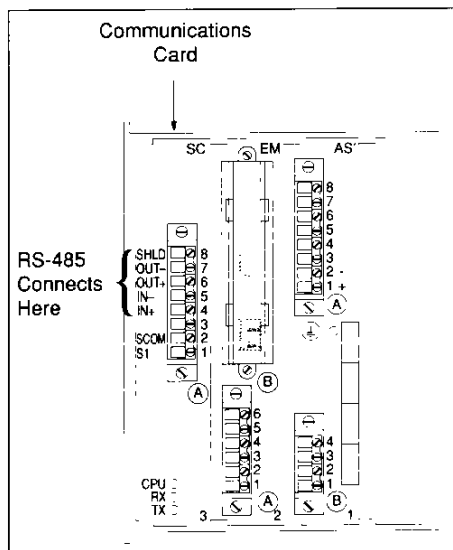

Figure 29: Communications card
Digital relay models DR-LXS01 S0A TBN and DR-LXS01 S0A TEN include a communications card (card 3). This communications card (figure 29) supports:
Digital relay models DR-LX S01 SOA TBN and DR-LX S01 SOA TEN include an RS-485 communications port for connection to a POWERLOGIC communications link. These digital relays use a removable, 8-position communications card connector, with the RS-485 connected at terminals 3A4-3A8 (figure 29).
3. Referring to table 4, page 29, connect the appropriate wire to the IN+ terminal on the digital relay's RS-485 8-position terminal block (figure 29, page 26). Connect the other end of the same wire to the IN+ terminal of the next device. Tighten both terminal screws; see the **Terminal Block Wiring Specifications** table, page 100, for the correct torque range.